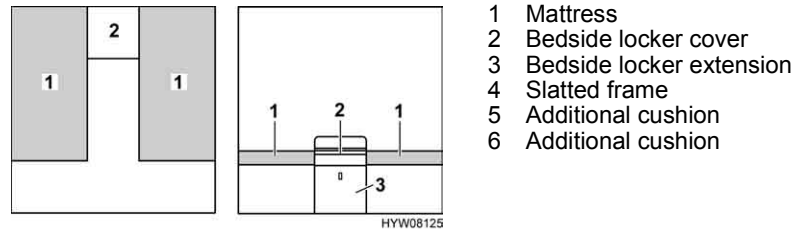

Fig. 86 Prior to conversion
- Remove the bedside locker cover (Fig. 86,2) and put it to one side.